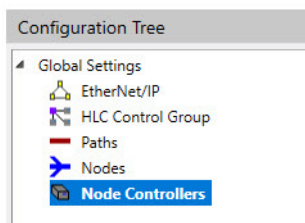

Figure 4-114: Configuration Tree with Node Controllers Selected
1. In the Configuration Tree, select **Node Controllers**, see Figure 4-114.